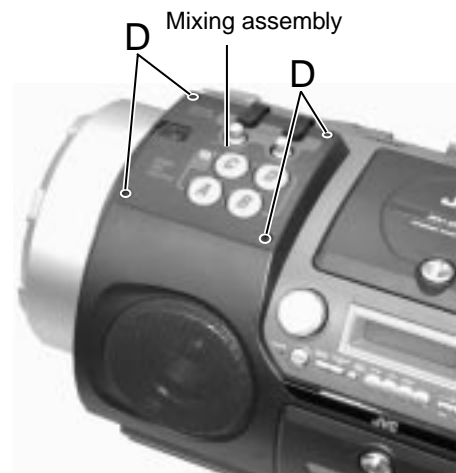

Fig.5
■Removing the mixing assembly (See Fig.5 and 6)